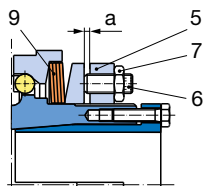

Fig. 9
Sizes 4 and 5 (Figs. 9 and 10):
- Loosen all hexagon nuts (7).
- Adjust all set screws (6) evenly to the required dimension "a" using a hexagon socket wrench.
- ☐ EAS®-Compact® ratchetting and synchronous clutch, Size 4: find dimension "a" in the Adjustment Table glued to the clutch (Fig. 9).